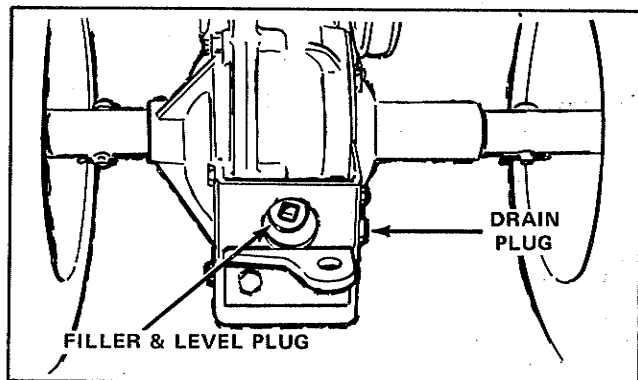

Figure 20
5. Check the Transmission Oil Level by removing the filler and level plug at the rear of the transmission. Allow the tractor to set for about 10 minutes after operation before checking. Oil should be level with the bottom of the filler and level hole. If necessary, add SAE 90 weight transmission oil. Reinstall the plug securely. It is normally not necessary, but if you wish to drain oil from the transmission, the drain plug is located on the lower right side of the transmission housing. (See Figure 20)